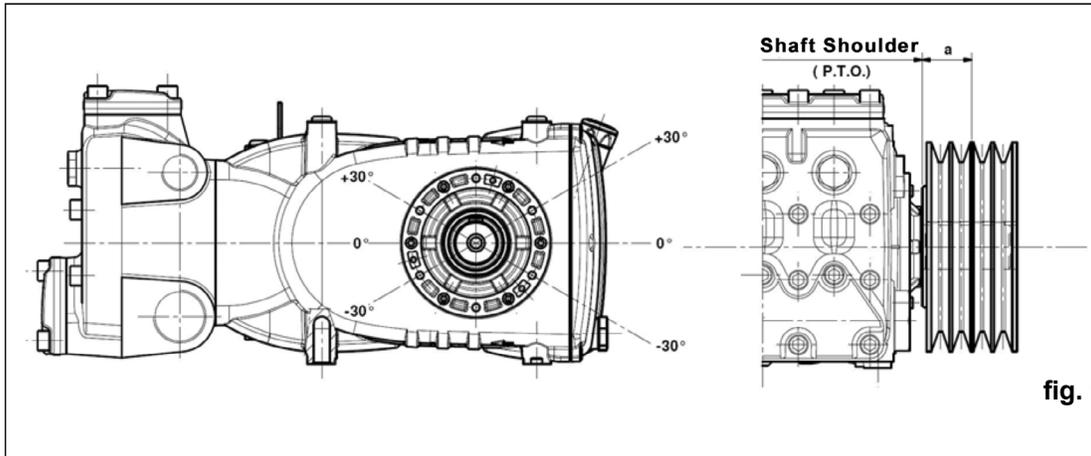

fig. 11
The pump may be driven by a v-belt system. For this pump model, we suggest using 4 XPB belts (16.5x13 cogged); for long durations, use the XPC profile; both the characteristics and the power transmission capacity of each belt can be verified on the diagram in **fig. 8**, in function of the number of rotations normally declared by the manufacturer. Minimum diameter of the driven pulley (on the pump shaft)  $\geq 9.8$  in. (250 mm). The radial load on the shaft must not be greater than 7500 N (value required for the definition of the lay-out). The transmission is considered adequate if this load is applied at a maximum distance of  $a=40$  mm from the shaft shoulder (PTO) as indicated in fig. 11.
- b) Use high efficiency belts - for example **XPB** instead of **SPB**; this will allow to use a lower number of belts to transmit the same power, and consequently a minor distance of the resultant from the shaft shoulder (PTO), "a" in **fig. 11**.